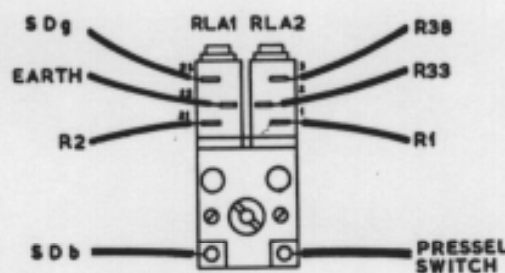

Fig.10 Relay Connections
- (b) Disconnect the rotary transformer connecting leads from the terminal block fitted to the side of the main chassis (see Fig.10).